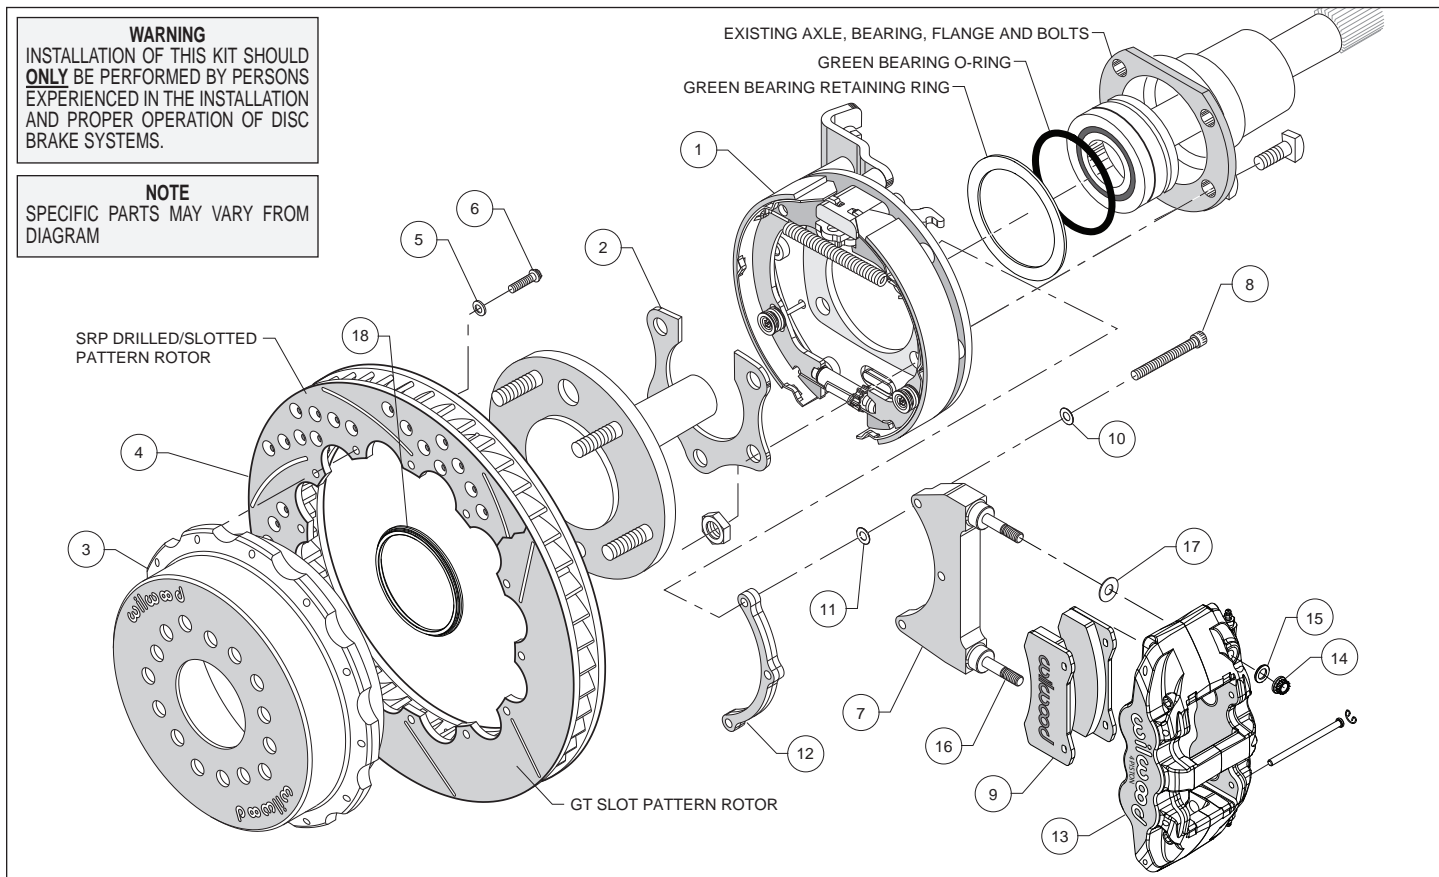
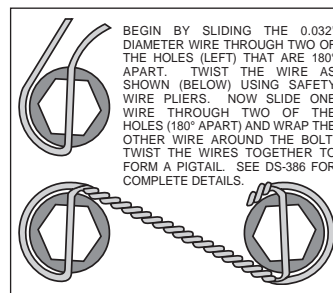

Figure 3. Typical Installation Configuration
Figure 7. Safety Wire Diagram
bracket assembly (1) as shown in Figure 3 and Photo 1 and slide it onto the axle and past the bearing. Reinstall the retaining ring and o-ring onto the bearing, again using care. Insert the axle and bracket into the axle housing. Ensure that the bracket assembly backing plate fits flush against the axle housing flange. **NOTE:** The bearing retaining ring should be sandwiched between the axle housing flange and the new bracket assembly.
- Install the bearing retainer (2) with the opening pointing upward and the bearing relief step facing inward (toward the bearing), as shown in Figures 3 and 6 and Photo 2. Secure retainer and bracket assembly to the axle housing flange using the Original Equipment Manufacturer (OEM) bolts and nuts, Figure 3. Apply red *Loctite*® 271 to the OEM bolt threads and torque to OEM specifications.
- **NOTE:** Please reference the caution statement at the beginning of the assembly instructions. The caliper mounting bracket (7) should initially be installed with clean, dry threads on the mounting bolts. Orient the bracket as shown in Figure 3, and install using bolts (8) and flat washers (10). Initially place one .015" shim washer (11) on each bolt between the bracket (7) and spacer (12), Figure 3. Temporarily tighten the mounting bolts. **NOTE:** End of bolt should not exceed inside face of insert. The bracket must tighten squarely against the back side of the bracket kit assembly (1). Inspect for interference from casting irregularities, machining ridges, burrs, etc. Later, after the caliper alignment has been checked, the mount bolts will be secured using red *Loctite*®.
- Orient the rotor (4) and the hat (3) as shown in Figure 3 and Photo 3. Attach rotor to hat using bolts (6) and washers (5). Using an alternating sequence, apply red *Loctite*® 271 to the threads, and torque bolts to 155 **in-lb**. For an added measure of security, the bolts may be safety wired using standard 0.032 inch diameter stainless steel safety wire as shown in Figure 7. Please refer to Wilwood's data sheet DS-386 (available at [www.wilwood.com/Pdf/DataSheets/ds386.pdf](http://www.wilwood.com/Pdf/DataSheets/ds386.pdf)) for complete safety wire installation instructions.
- Slide the rotor registration adapter (18) onto the axle register on the axle flange with the smaller O.D. facing toward the rotor/hat (4 and 3), Photo 4. Align the correct hole pattern in the hat with the stud pattern on the axle flange and slide into place, Figure 3 and Photo 5. **NOTE:** The rotor/hat must fit flush against the axle flange or excessive rotor run out may result. Install three lug nuts (finger tight) to keep the rotor/hat assembly in place while continuing with the installation. **NOTE:** Some OEM and after market axles come with stud sizes larger than 0.50" diameter. Verify stud size and have a qualified machine shop drill the bolt circle of the hat/rotor to the correct stud size, if necessary.
•Lubricate the caliper mounting studs with lightweight oil. Initially place one .030" thick shim (17) on each stud between the caliper and the bracket, as shown in Figure 3 and Photo 6. Mount the caliper (13) onto the bracket (7) using lock nuts (14) and washers (15), Figure 3. Temporarily tighten the lock nuts and view the rotor through the top opening of the caliper. The rotor should be centered in the caliper, Photo 7. If not, adjust by adding or subtracting shims (11) between the bracket (7) and the spacer (12). Always use the same amount of shims on each of the three mounting bolts. **NOTE:** *The ends of the mounting bolts must fully engage, but not exceed, the inside face of the clinch nuts in the backing plate.* If needed, add or subtract spare shims (11) and/or washers (10) under the bracket bolt heads to achieve proper clinch nut engagement. Once the caliper alignment and clinch nut engagement are correct, remove the bracket mounting bolts one at a time, apply red *Loctite*® 271 to the threads, and torque to 180 **in-lbs**.